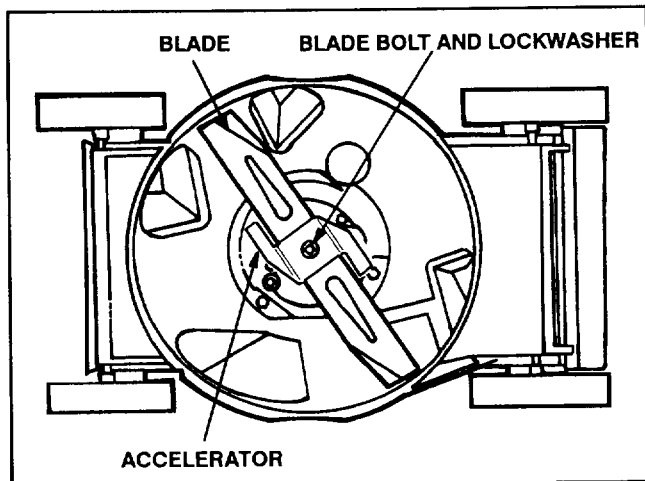

Figure 20
3. Place new blade and accelerator on mower (Fig. 20). Secure with fasteners removed previously. Tighten blade bolt to 50 ft-lbs.